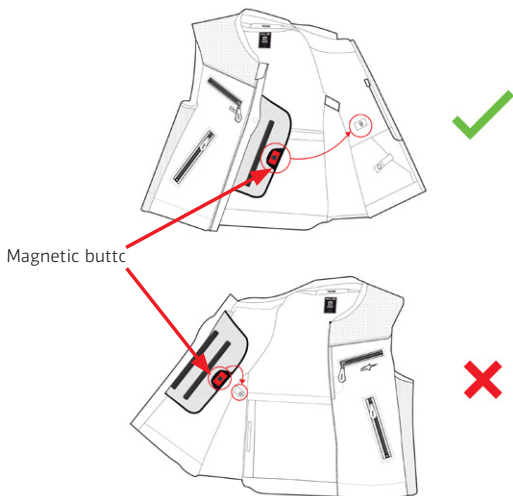

Figure 9
1. Put on the System and fix the Airbag present in the chest area connecting the Chest Magnetic Button (9) with the Magnetic Button Left (11) present on the vest (Figure 9).
2. Close the Activation Zip (1) from the bottom to the top and wait for the System to switch on
3. The correct closure of the Activation Zip (1) and the switching on of the System are signaled by the switching on of the LED Display (2) and by the presence of a vibration in the same area
4. Once the System is switched on, check the LED Display (2) to verify that the System has started correctly (see Section 13 "LED Display Indications"). In particular, the user must verify that, after the System start-up, no System fault is present.